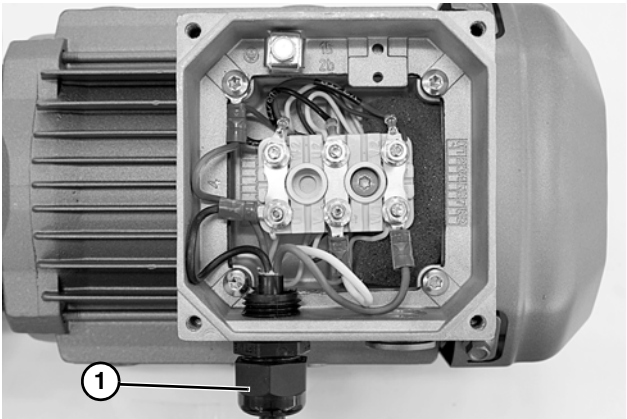

Figure 12
3. Install cord grip and power cord (Figure 12, item 1) mount to terminal box as required.